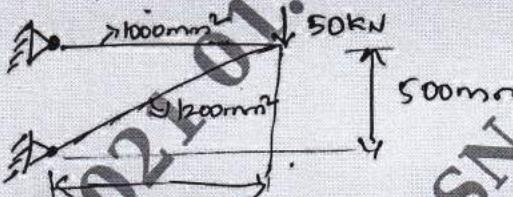

Fig.Q6
- 6 For the 2 bar truss shown in Fig.Q6, determine nodal displacement and stress in each member. Also find support reaction.  $E = 200 \text{ GPa}$ .